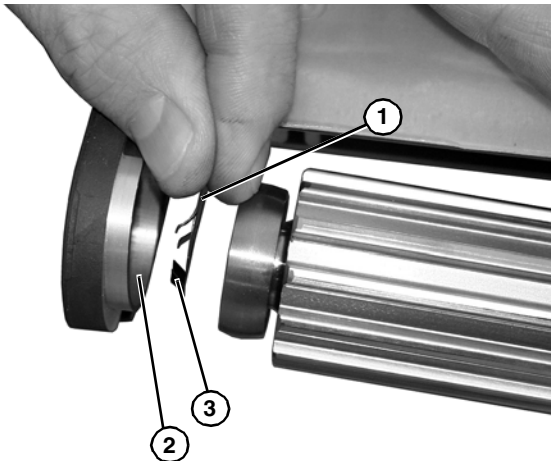

Figure 55
2. Add spring washer (**Figure 55, item 1**) to head plate spindle bore (**Figure 55, item 2**) opposite motor drive side with fingers (**Figure 55, item 3**) toward head plate spindle bore.